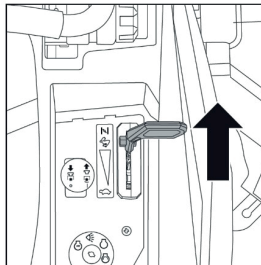

FIG.13
2. REMOVA A TAMPA DE COMBUSTÍVEL (FIG. 13)